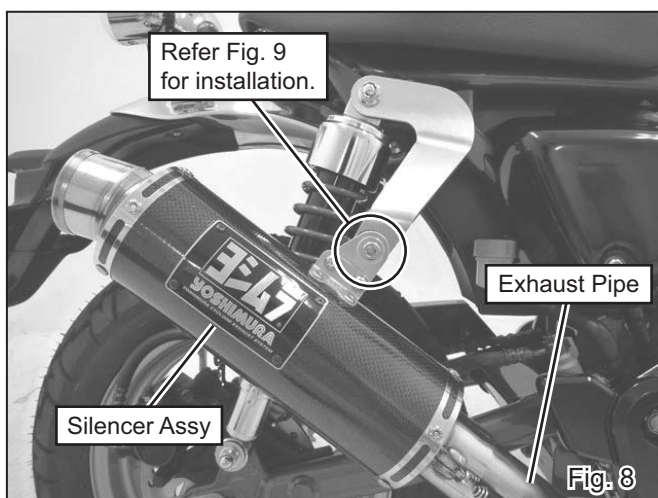

Fig. 8
- 7) Mount Silencer Assy to Silencer Bracket #1 with Cap Bolt M8x30, Washer M8x20, 2 of Washer M8x26 and Flange Nut M8 (See Fig. 8 & 9). Tighten the bolt by hand only at this stage.